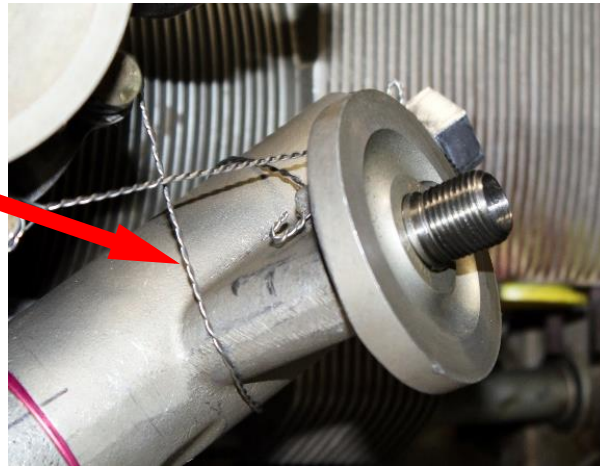

Figure 4
- d. If there is no safety-wire securing the body itself against rotation, install a safety-wire such that the wire will prevent the body from rotating in a counter-clockwise (loosening) direction, see Figure 4, Secure the safety-wire to a suitable location **on the engine**. Do not secure any safety-wire from the adapter to the airframe.